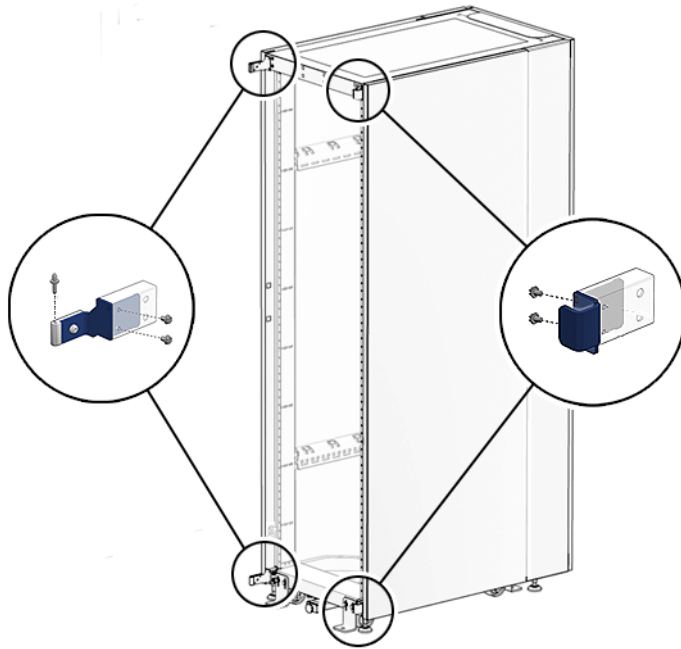

FIGURE 4-3 Removing the Silver Alloy Door Hinges and Latches
3. Using a screwdriver or wrench, remove the two black and silver hinges from the front of the Sun Rack (FIGURE 4-3).
4. Remove the two black latches from the front of the Sun Rack (FIGURE 4-3). The latches are pressure-fitted and may require some effort to remove.